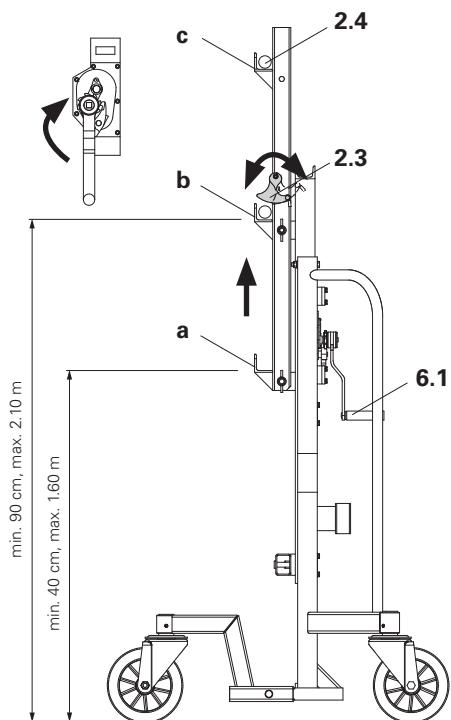

Fig. A1.05
- Raise the load by turning the hand crank (6.1) in a clockwise direction. The safety pawls (2.3) are automatically pushed upwards at the rear, fall in a forward direction and thus secure the frame against lifting. (Fig. A1.05)